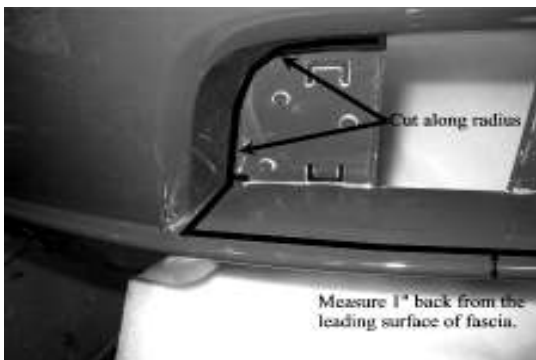

Figure 7
4. With the lower grille removed, mark the fascia for cutting. Measure from the front edge of the fascia's lower lip back 1"(directly forward of the opening). From each end of the opening, mark a line straight out to the 1" line. (Figure 7,8)